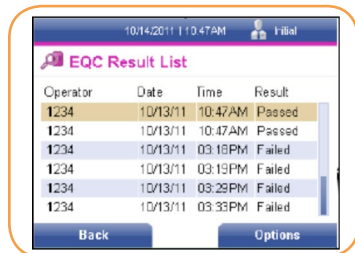

FIGURE 86
6. Press the right soft key to select the entered dates. The EQC Result List screen is displayed (Figure 86).